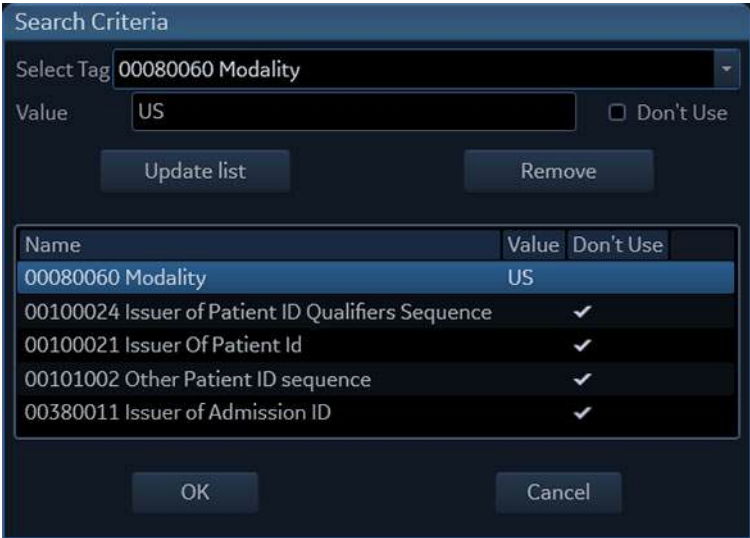

Figure 12-55. The Search Criteria window
5. Press **Search criteria**. The *Search criteria* window is displayed (Figure 12-55).